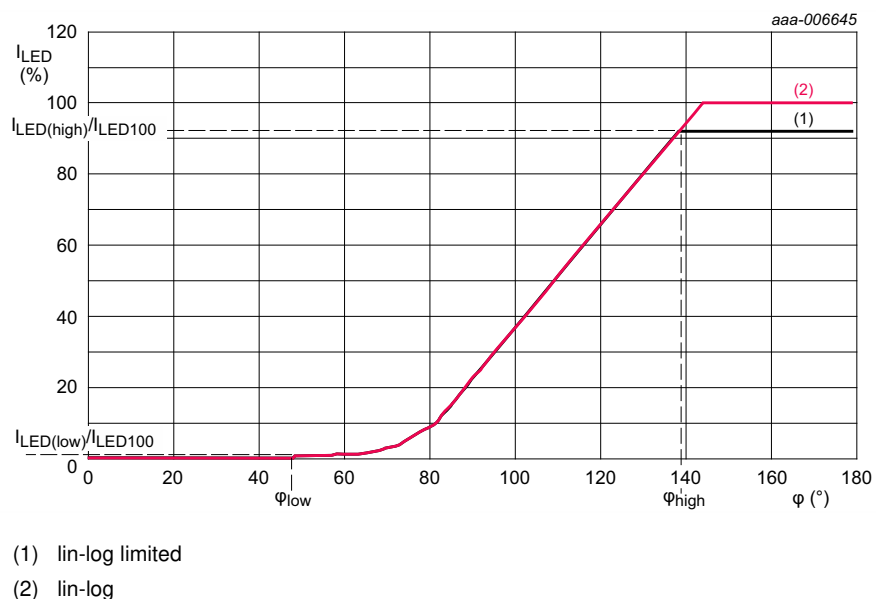

**Fig 5. External components at the BLS pin**
- A weak bleed current is generated to keep the dimmer in conduction when triggered. The generation of the weak bleed current is achieved when the total current to the dimmer is fed through a sense resistor  $R_{BLDSNS}$  (see Figure 5). The resulting voltage is measured at the BLS pin. A control loop in the IC uses this voltage to drive the external bleeder stage. The resulting bleeder current adds to the converter current so that the total current drawn by the application is kept constant.